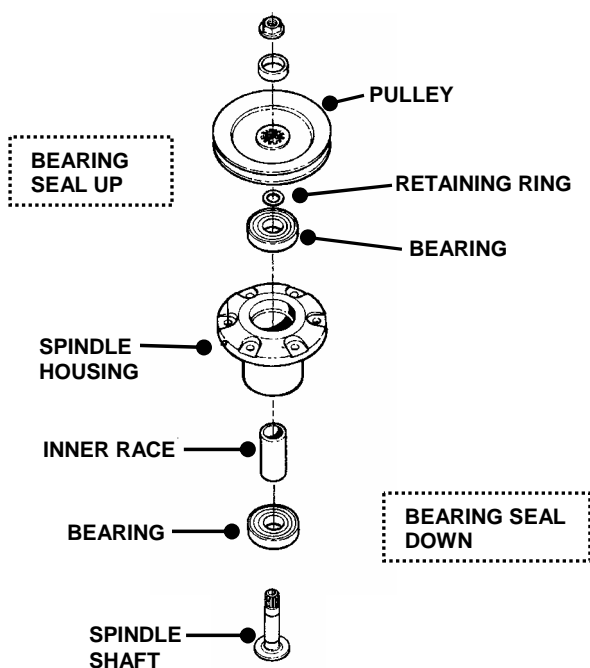

FIGURE 4.6
4. Top and bottom bearings are now removable. Pull out on inner race to slide bearing from housing. See Figure 4.6.